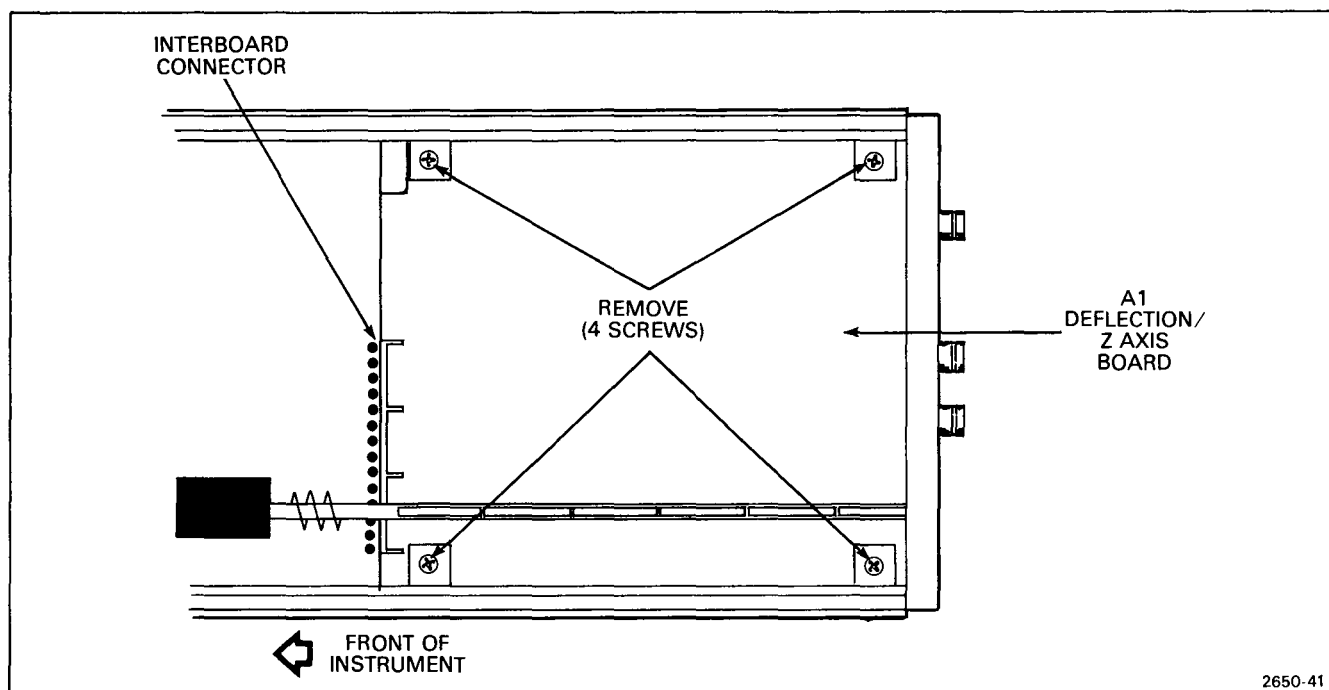

Figure 5-7. A1-Deflection/Z-Axis board removal.
3. Remove mounting screws (see Fig. 5-7).